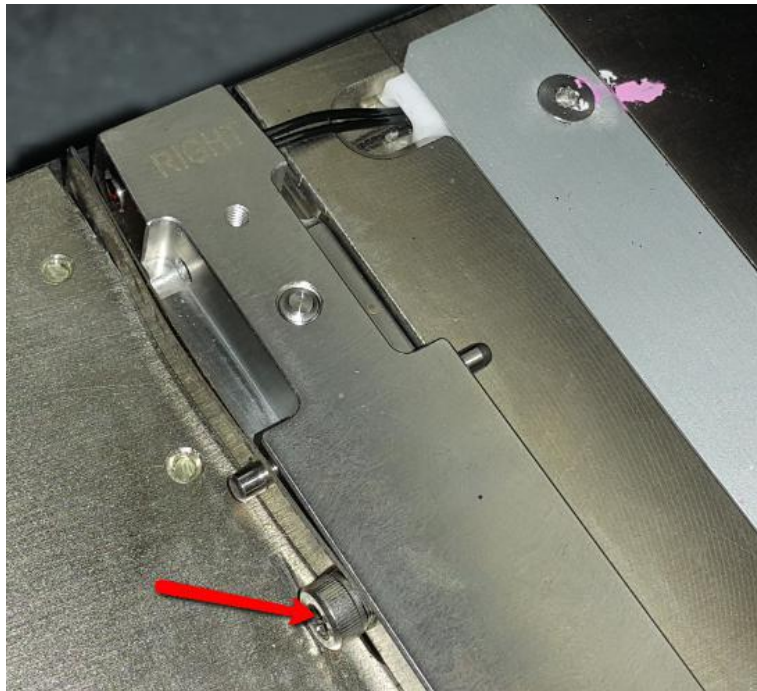

Figure 1 PIP Board Stop Screws Removal
3. Using the 2.5mm Hex Wrench and remove the screw which holding the PIP Sensor Flag on PIP Board Stop. May refer to below Figure 1.